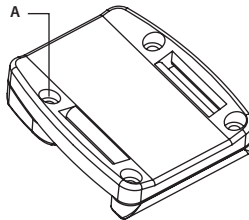

FIGURE 4-1. ADVANCED WIRELESS REMOTE CONTROL BATTERY INSTALLATION
1. Using a screwdriver, unscrew the four screws (A, Figure 4-1) that secure the cover to the bottom of the unit. Remove the cover.
3. Replace the cover and tighten the screws (A).